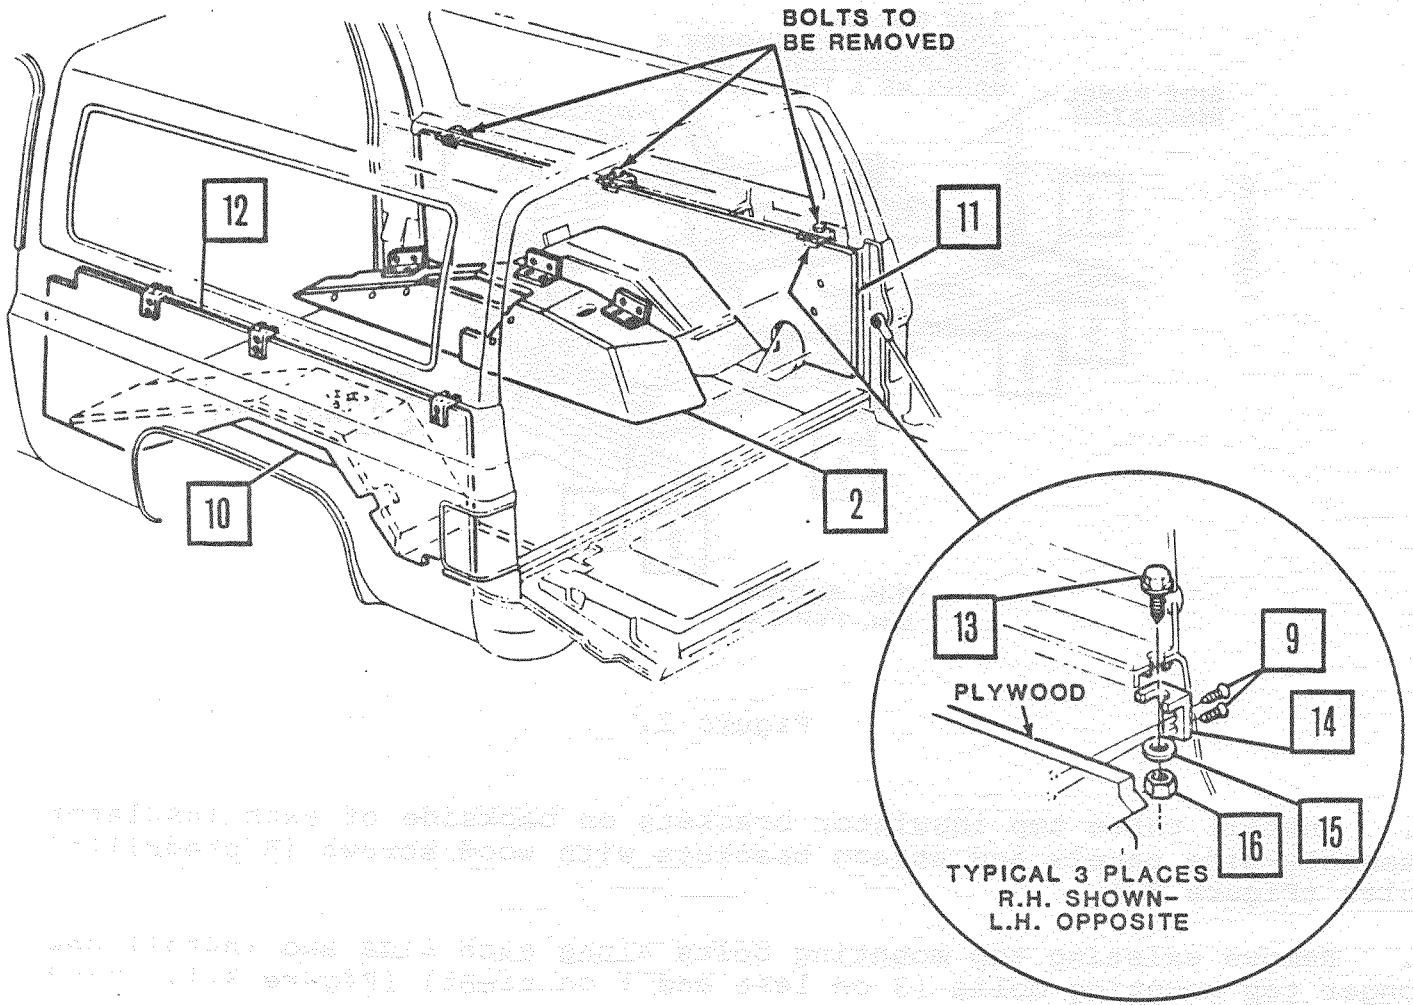

Figure 3.
5. Install three top insulator brackets on backside of each insulator assembly-side panels and attach brackets with wood screws in predrilled holes (Figure 3.).
6. Remove existing top mounting bolts along each side and install new longer top mounting bolts (3 on left and 1 on right) (Figure 3.). Hand tighten bolts.
7. Install each insulator assembly-side panel under mounting bracket and secure in place with nut, bolt and washer. Tighten to 95-140 lb.-in. (11.0-16.0 Nm) (Figure 3.).